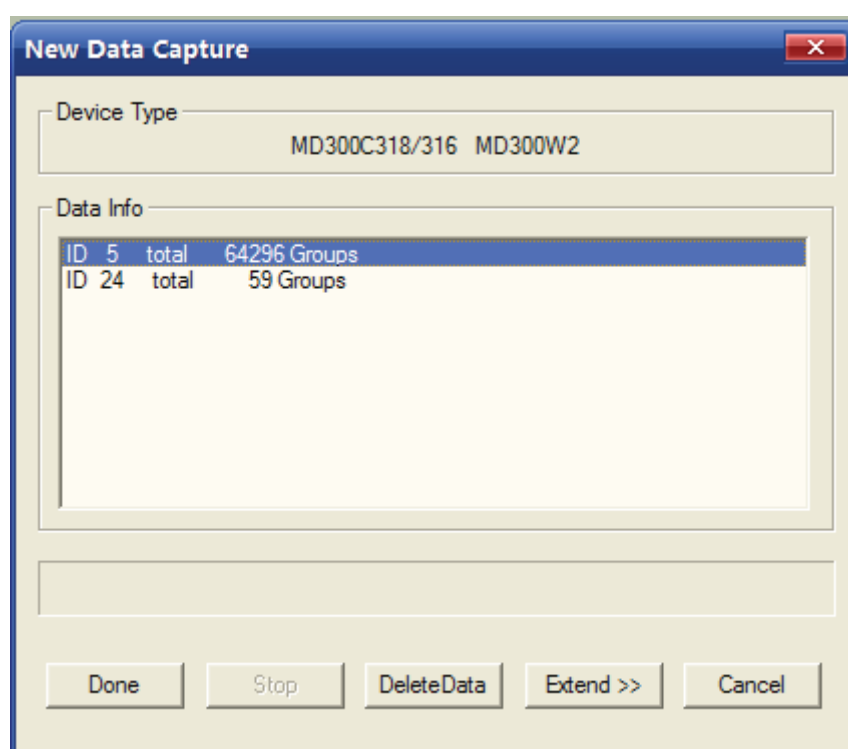
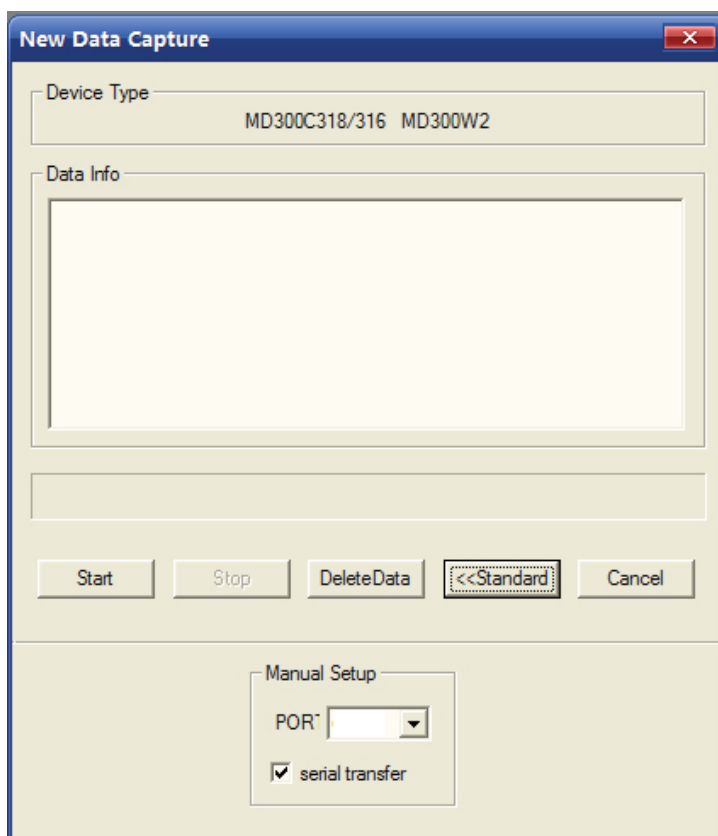

Figure 3-6
Figure 3-11
3.1.5 Click a piece of data record which you want to manage in “Data Info” column, and then click the “Done” button to acquire its report, refer to fig.3-6&3-7.
3.3.1 Click “**Extend>>**” button as shown in Figure 3-6, check “serial transfer” button in “Manual Setup”, as shown in Figure 3-11.